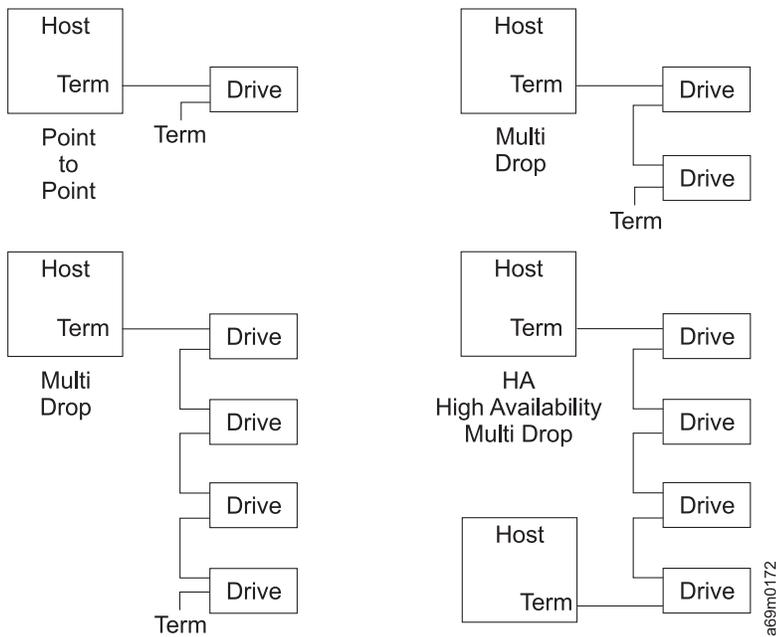

Figure 51. SCSI Interface Cables (Various Layouts)
- ___ 1. Consult with your customer and review the examples shown in Figure 51 on page 114. You will be attaching necessary SCSI cables and terminators in the following steps.
Attention: The following comments apply to Figure 51 on page 114.